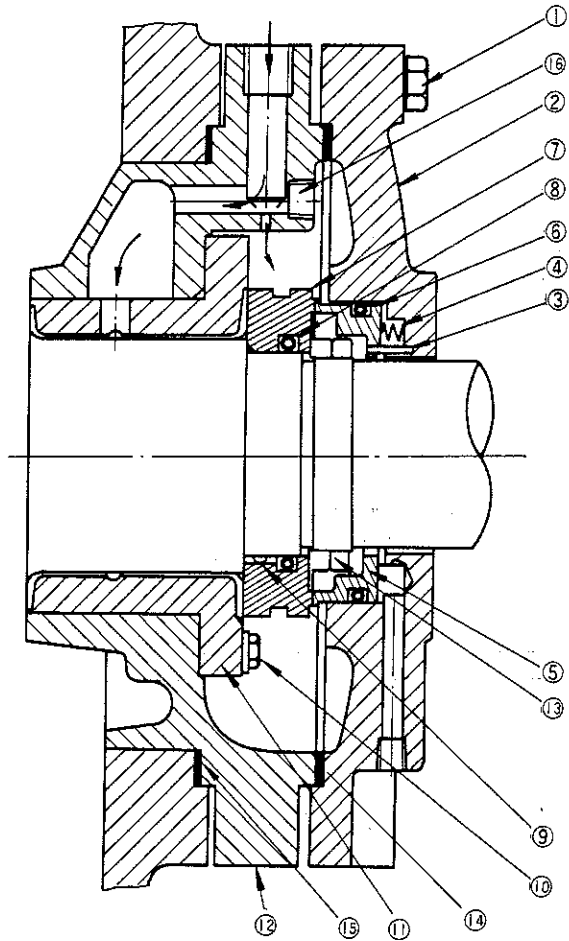

Fig. 23 Sectional view of shaft seal type A
The shaft seal mechanism (Figs. 23 & 24) is a simple and efficient sealing device consisting of a shaft seal collar (7), shaft seal ring (5) and "O" rings (6 & 8). The shaft seal collar is fixed to the shaft by a locking ball (9) and thus rotates with the crankshaft. The seal ring is locked to the cover plate by a roll pin (3) and alignment of the friction surfaces of these two parts is assured by the installation of a helical spring (4). The seal is pressure-fed by oil from the pump and is sealed by "O" rings and a lapped friction surface. Leakage of refrigerant and oil is completely eliminated.